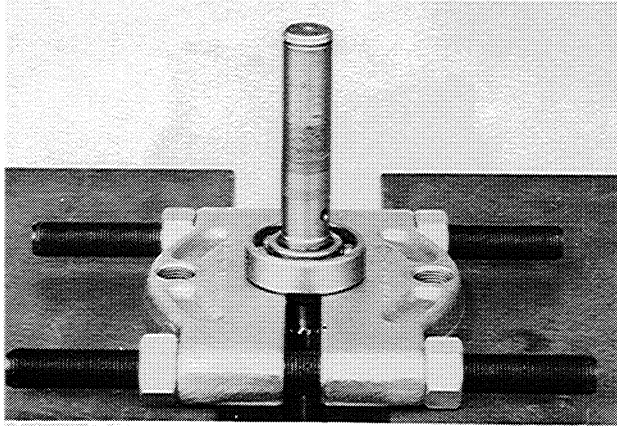

Figure 71
2. Use an acceptable tool to support the ball bearing on blocks on the press table as shown in Figure 71. Make sure that the snap ring end of the pump shaft is up.